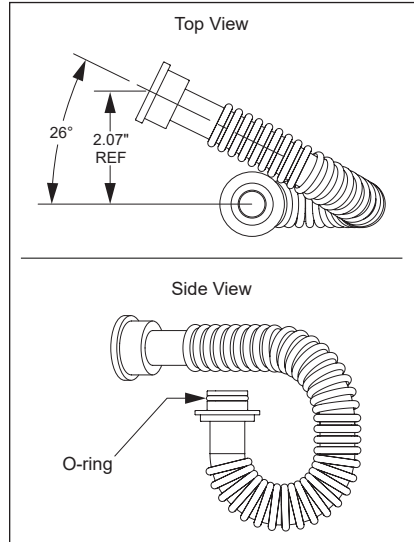

Figure 26 - Bending the Flex Hose
- 16** Remove new flex hose from service kit. Carefully bend flex hose to allow for easy connection to Smart Valve and hot t-nipple as shown in Figure 26.